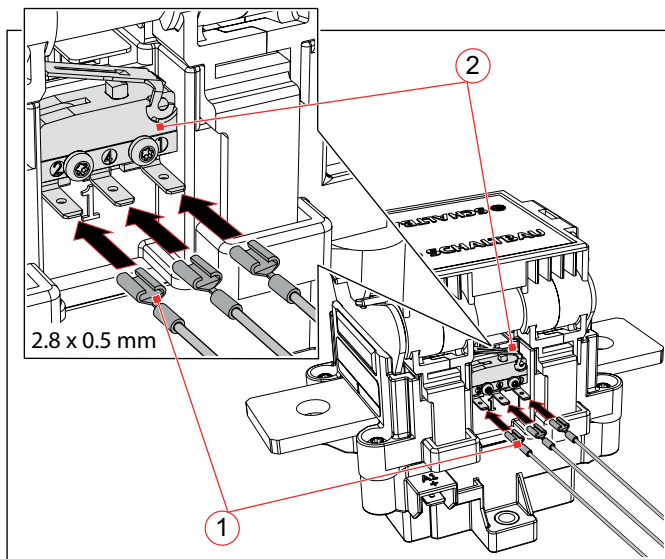

Fig. 16: Connecting the S880 auxiliary switch (the figure shows C360A, the procedure is identical for C360K and C360S)
- ▶ Move and route the control wires and receptacles only in the direction of plugging, see **Fig. 16**.
▶ Plug the pre-assembled control wires with the receptacles (1) to the connections (2) of the auxiliary switch.